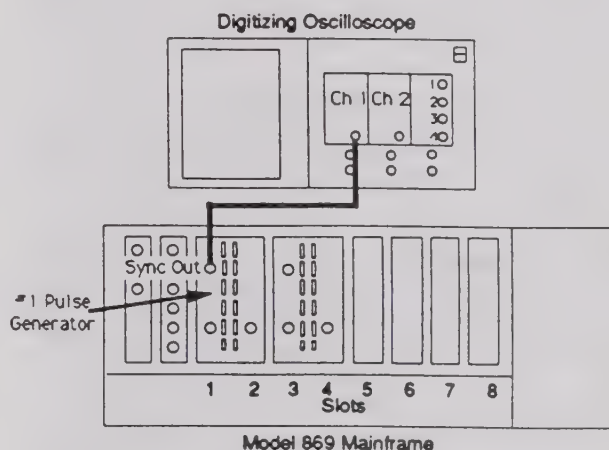

Figure 2-13. Sync Out Waveform Hookup
- Interconnect the required test equipment as shown in figure 2-13.